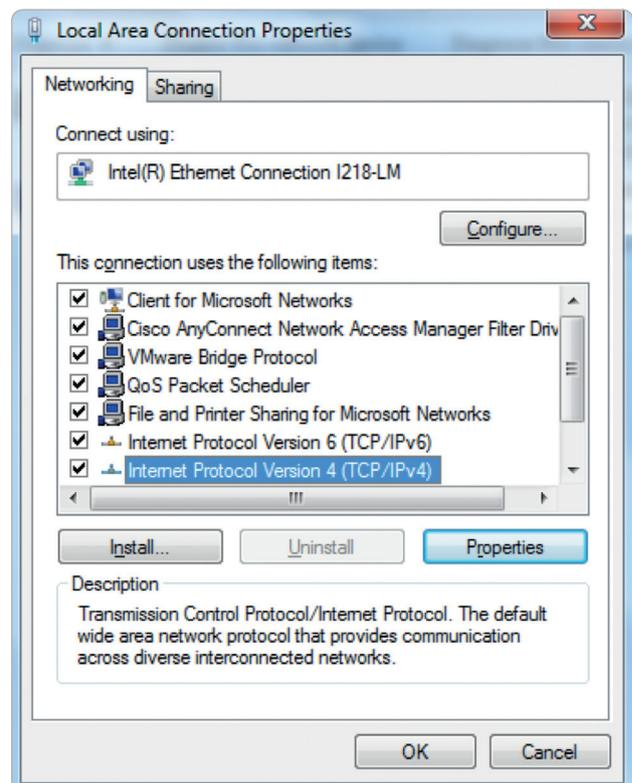

Figure 3. Configuring the Local Area Connection Properties.
3. Select **Internet Protocol Version 4 (TCP/IPv4)**, and click **Properties** (Figure 3).